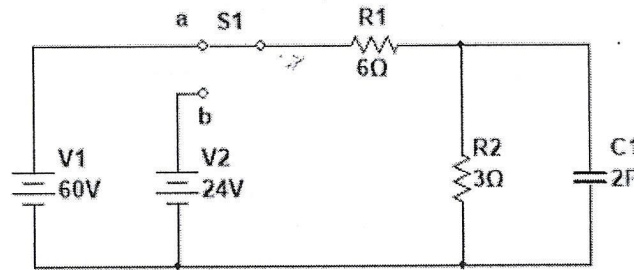

Figure 2
- The switch in Figure.2 has been in position “a” for a long time. As it moves to position “b” ($t=0$). Calculate $V(t)$ for all $t \geq 0$. (10 Marks)